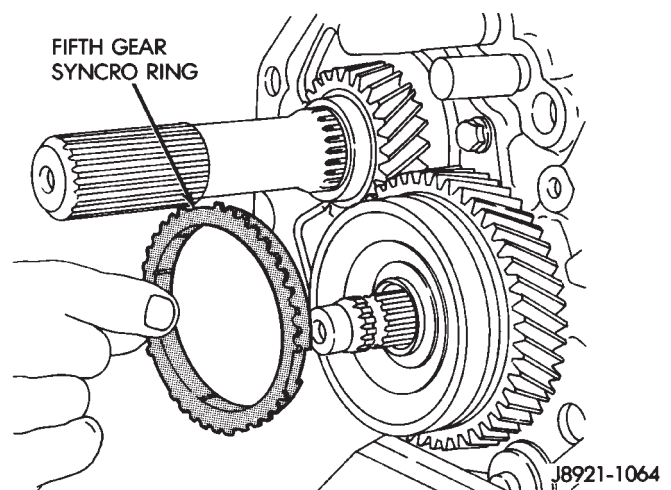

Fig. 102 Installing Fifth Gear Synchro Ring
- (6) Install synchro ring in synchro sleeve (Fig. 102).